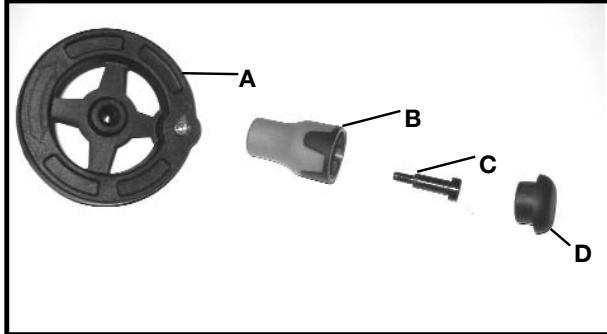

Fig. 10
1. Insert special screw (C) through handle (B) Fig. 10 and assembly handle to handwheel (A) by threading screw clockwise into handwheel. Then push on handle cover (D).